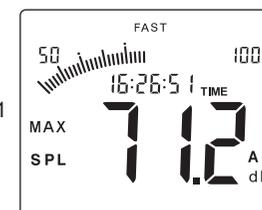

Figure11
- During measurement process, press the **MAX/CLOCK** key to lock up the maximum reading, the LCD displays as in figure 11: